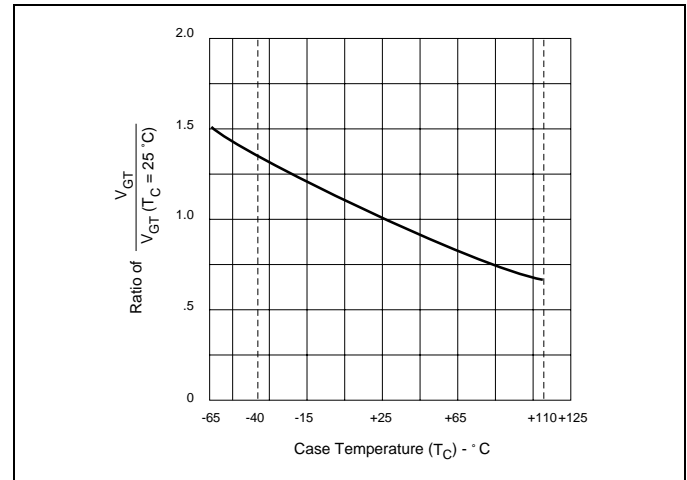

Figure E1.6 Normalized DC Gate Trigger Voltage for All Quadrants versus Case Temperature
- (5) See Figure E1.6 for V_{GT} versus T_C .